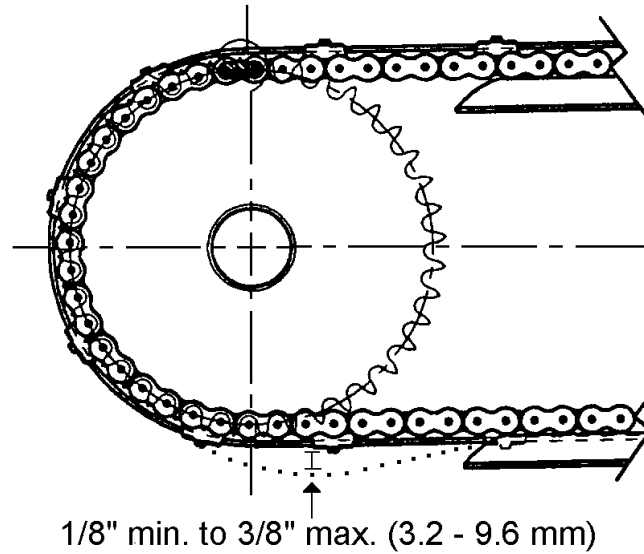

Figure 6
- c. Adjust the chain tension by moving the outside radius end roll bearing assembly until the chain, as it leaves the discharge end sprocket, has a slight sag as it enters the entry end lower chain guide. While running, the chain sag (slack) should be no less than 1/8" or more than 3/8" (3.2 – 9.6 mm). (Refer to Figures 6 & 7)
- j. Adjust the chain tension and tighten the outside radius bearing bolts. (See Chain Adjustment–Figure 6)
- i. Adjust the chain tension by moving both end roll assemblies until the chain, as it leaves the discharge end sprocket, has a slight sag as it enters the entry end lower chain guide. The chain sag (slack) should be no less than 1/8" or more than 3/8" (3.2 – 9.6 mm). The inside radius end of the end rolls should remain loose. (See Figures 6 and 9)